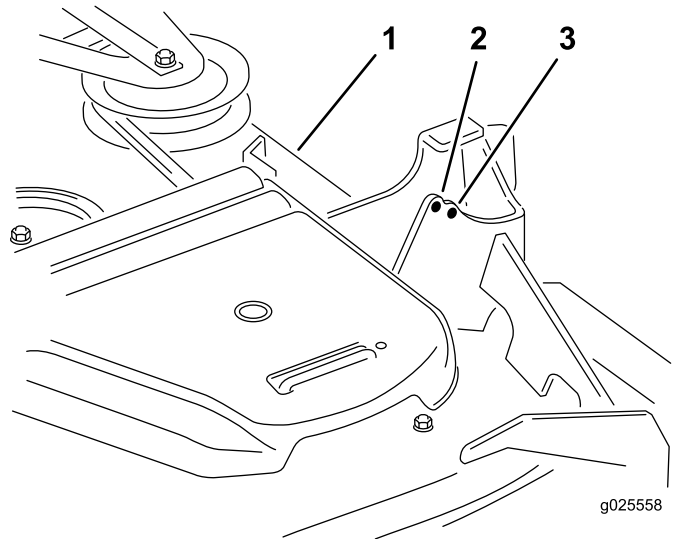

**Figure 83**
13. If the 4 deck adjusters do not have enough adjustment to achieve the accurate height of cut with the desired rake, you can adjust the single-point system (Figure 83).
14. To adjust the single-point system, first loosen the front and rear height-of-cut plate mounting bolts (Figure 83).
16. Tighten the 2 bolts at the bottom of the height-of-cut plate (Figure 83).